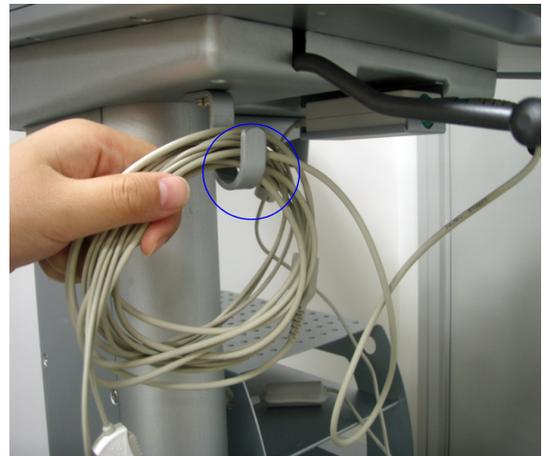

Figure 3-37 ECG Installation
- 1.) Install ECG, refer to section Figure 3-37 on page 50.
- 2.) Put ECG in the ECG bracket, refer to section Figure 3-37 on page 50.
NOTE: If do not use ECG, hang the cable in the ECG cable hook, refer to section Figure 3-37 on page 50.